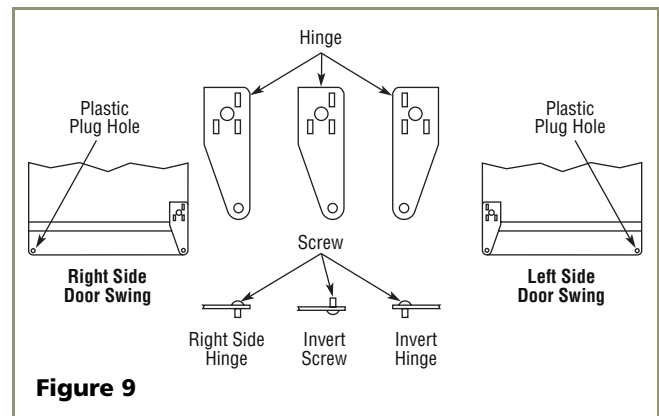

Figure 9
6. Remove plastic hole plug from door handle and relocate on opposite side. See **Figure 9**.
7. Remove pivot screw from top hinge, invert screw and reinstall pivot screw in top hinge. See **Figure 9**.